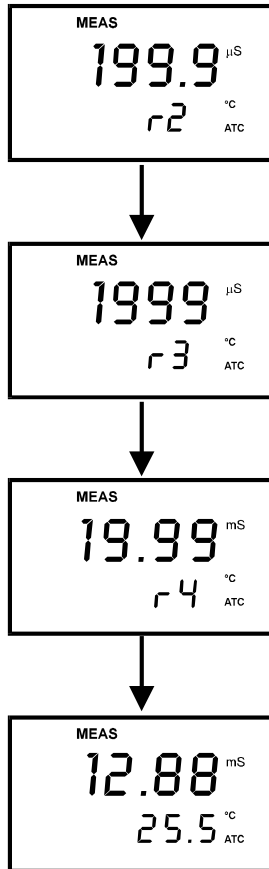

Figure 21 - Auto-Ranging Feature
- 4 The primary display will show the actual conductivity value. See Figure 21.